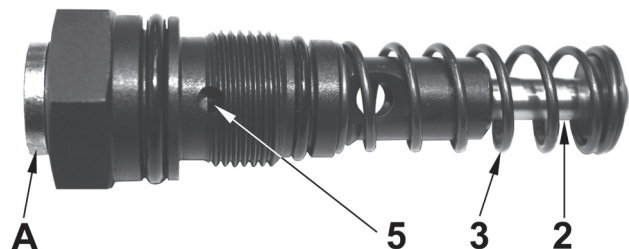

Fig. 12 Pump element Z7 for internal lubricant crossporting
The body of the pump element has a lateral outlet (5) (Fig. 12) for lubricant crossporting to the internal material passages to combine the outlet of all three pump elements.
Any one of the three elements can be used as a pump outlet. The remaining two elements should be closed with plug (A) (Fig. 12).